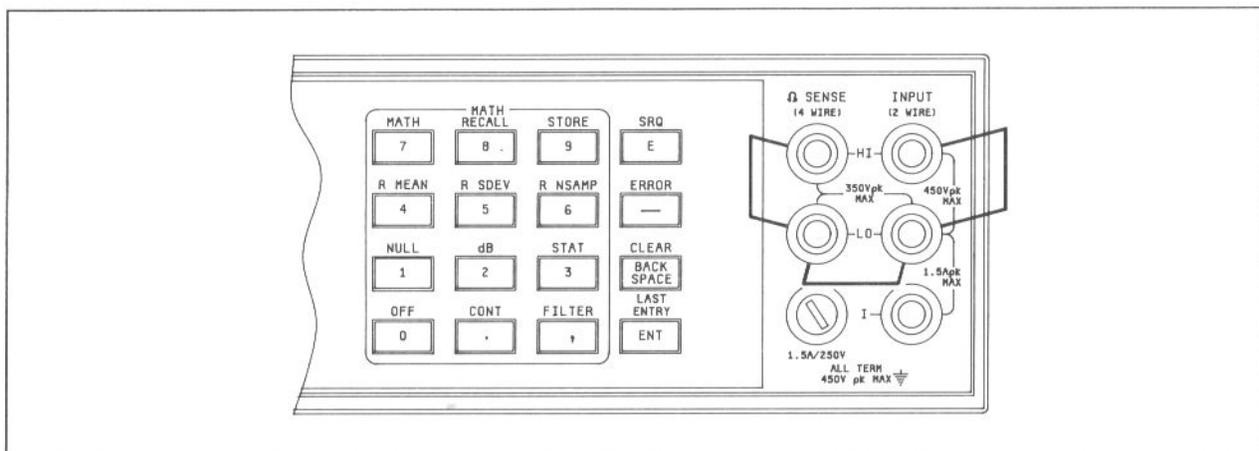

Figure 4-6. 4-Wire Ohms Offset Performance Test Connections
2. Short the front panel input terminals of the HP 3457A as shown in Figure 4-6.